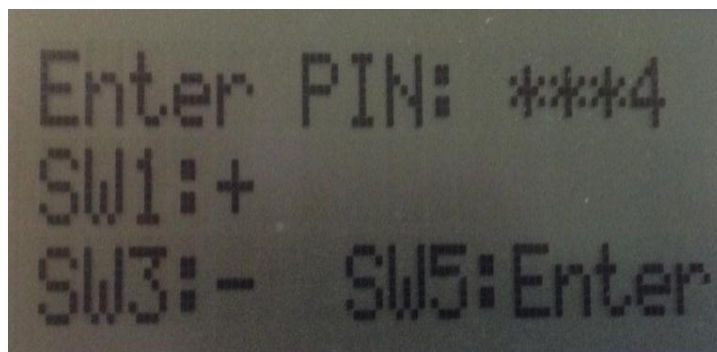
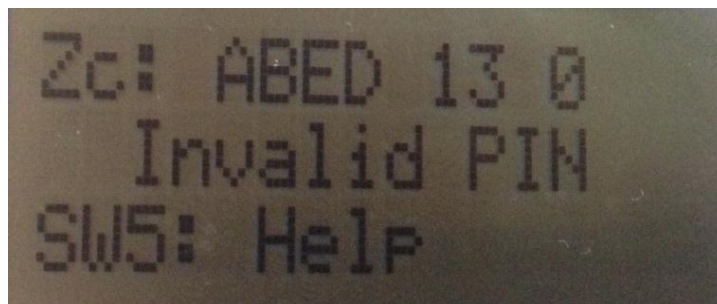

Figure 23: Setting SampleDoorLock PIN
Figure 25: SampleDoorLock showing Invalid PIN update
4. Master PIN is stored on the SampleDoorLock. Both devices have a default PIN of “1234”. This PIN must match in order for the SampleDoorLockController to successfully lock/unlock the SampleDoorLock. To change the default pin, consult section 2.4.2. **Figure 23** shows change pin snapshot. If the PIN sent to the SampleDoorLock is invalid, the display will appear as shown in **Figure 25**